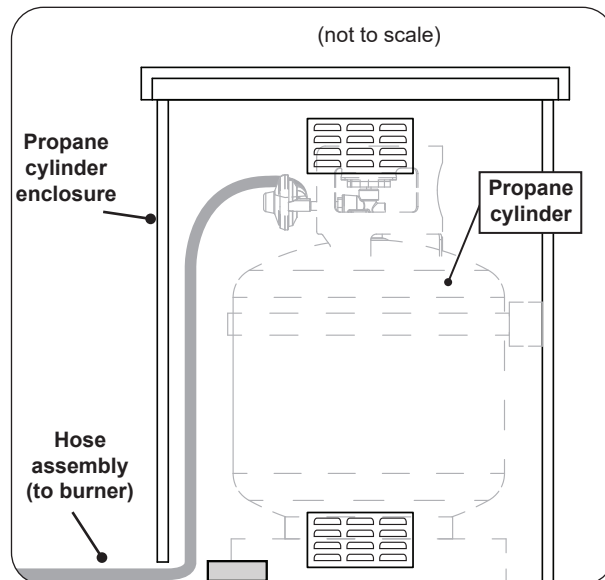

Fig. 25-3 L.P. Cylinder placement
3. The propane cylinder (not included) is to be located inside the separate propane cylinder enclosure (see Fig. 25-3).